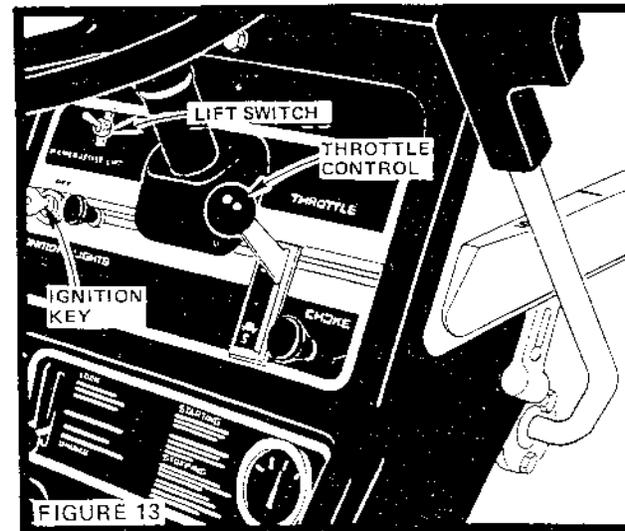

FIGURE 13
4. Pull Choke out (Fig. 13).
5. Move Throttle Control to middle position (Fig. 13).
6. Turn Ignition Key to "START" position until Engine starts (Fig. 13). Release key into "ON" position.
NOTE: The Power Assist Lift Switch (Fig. 13) raises or lowers rear mounted attachments when used with an Electric Three Point Hitch (optional equipment).